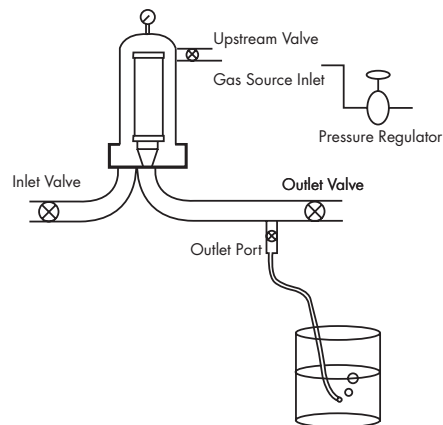

Figure 1: Diffusion Integrity Test
1. Connect the process air line to the inlet side of the capsule or filter housing (Figure 1).
5. Start measuring the diffusion air flow rate using a downstream mass flow meter or an inverted graduated cylinder (Figure 1) for 1 to 5 minutes. Protect the mass flow meter from water ingress by using a barrier filter.